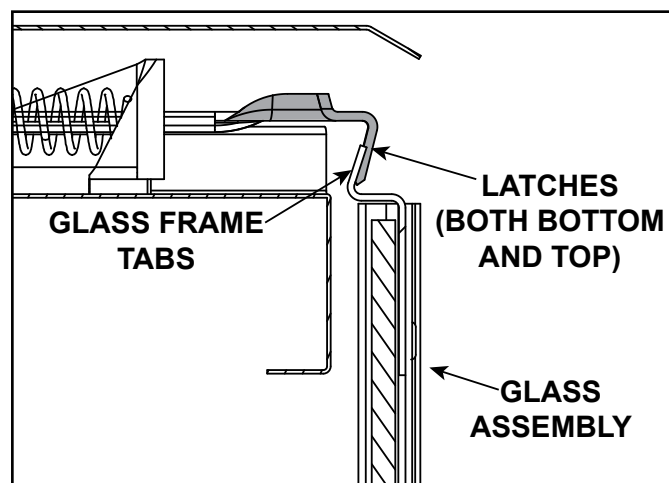

Figure 11.13 Fixed Glass Assembly
- Pull the four glass assembly latches away from the tabs on the glass frame. Remove glass assembly from the appliance. See Figure 11.13.